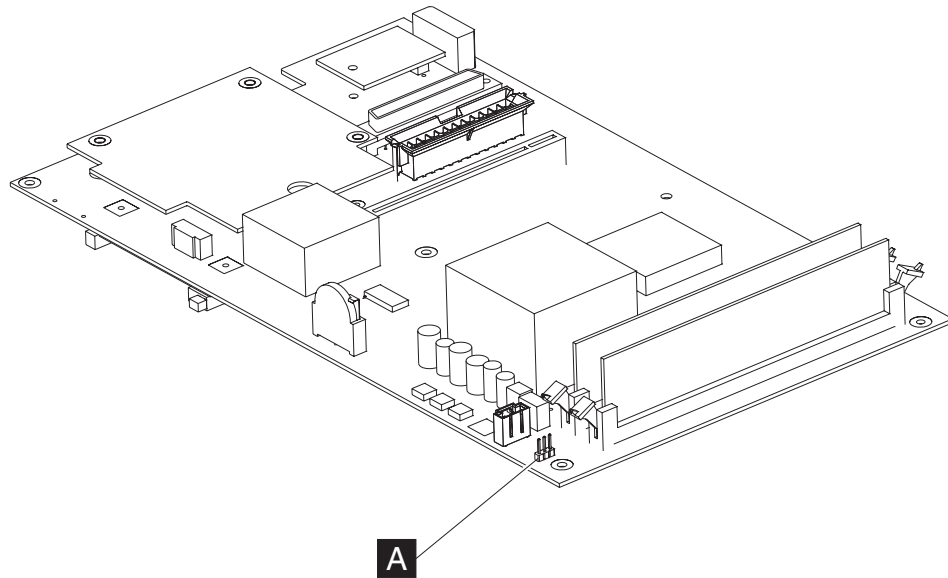

Figure 6. CMOS reset jumper J25
2. Locate the CMOS reset jumper (J25) on the system board. See **A** in Figure 6.